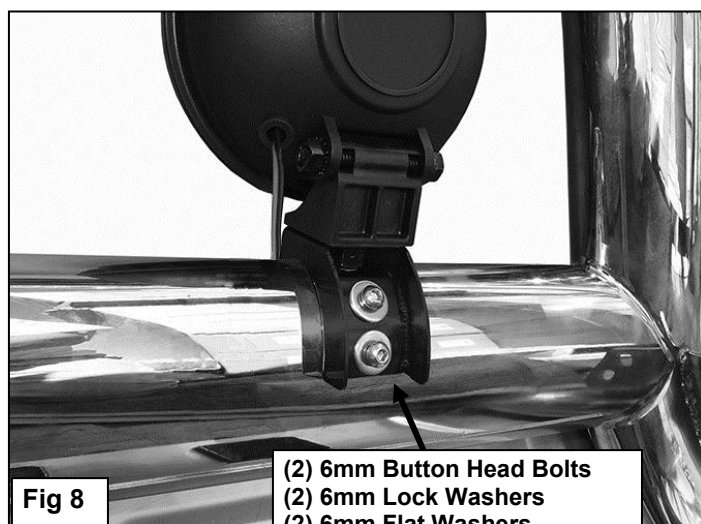

Fig 8
8. If aftermarket lights, (not included), are to be installed, remove the rubber plugs on the top of the cross bar. Select (1) Light Bracket, **(Figure 7)**. Attach the light to the Light Bracket using the hardware included with the light. Attach the light and Bracket to the back of the Bull Bar with (2) 6mm Button Head Bolts, (2) 6mm Lock Washers and (2) 6mm Flat Washers, **(Figure 8)**. Adjust the light as desired. **NOTE:** Depending on light design, repeated removal and reinstallation of the light and Bracket may be required for proper adjustment. Tighten all hardware.